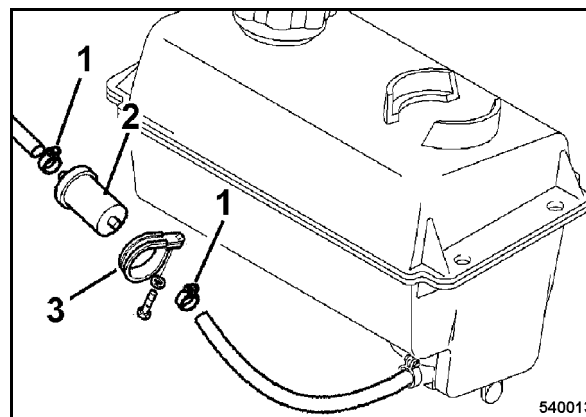

Fig. 52
- Loosen hose clamp (1) (Fig. 52) and pull the fuel hoses off the fuel filter.
- Loosen the clamping screws (3) and take off the fuel filter (2).